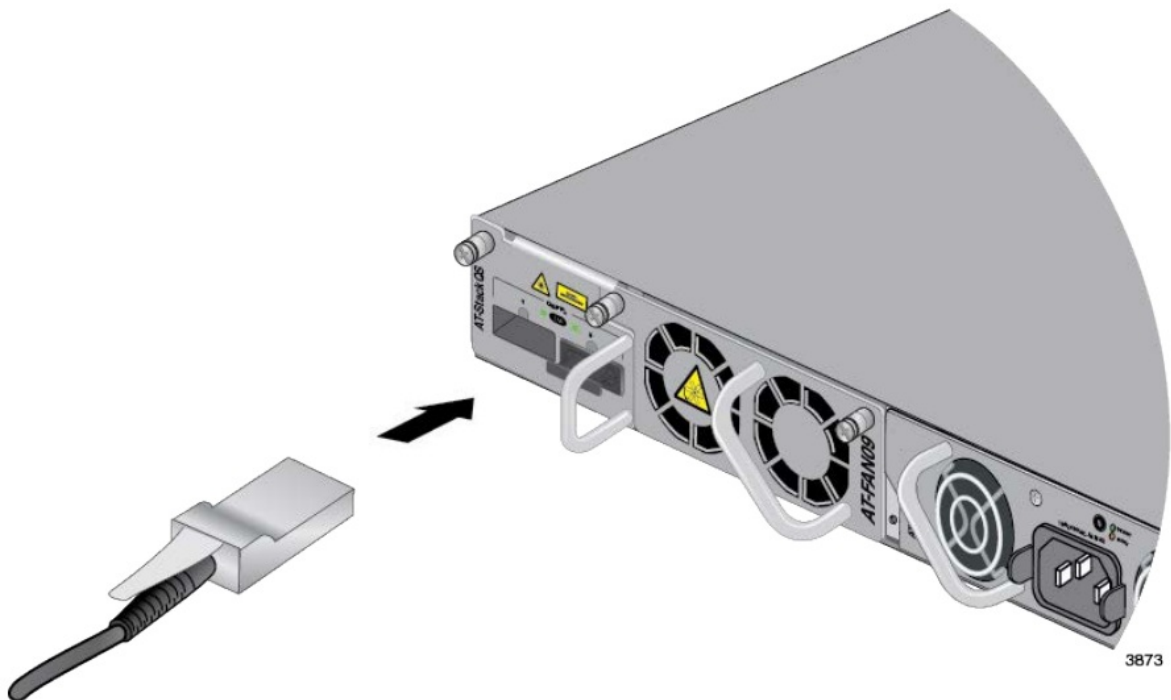

Figure 81. Installing the AT-QSFPICU Cable in Port 1
2. Slide the connector on the AT-QSFPICU Cable into the port until it clicks into place. Refer to Figure 81 on page 146.